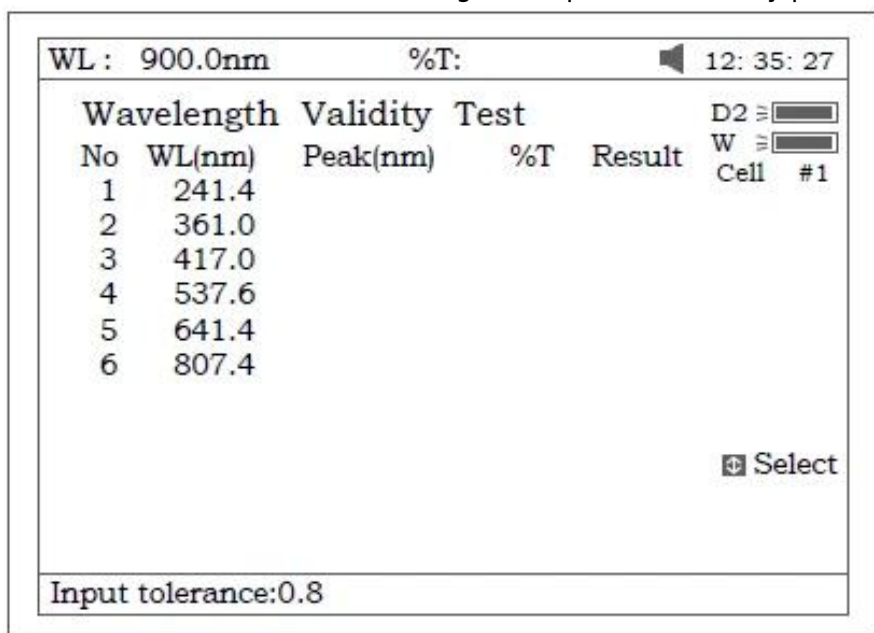

Figure 98
4. Press **【F3】** to set tolerance (Fig 98). Input the value by pressing the numeric keypad.